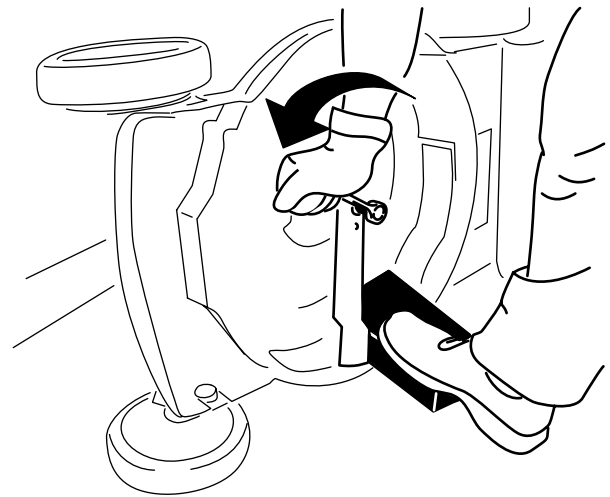

Figure 25
2. Use a block of wood to hold the blade steady (Figure 25).
3. Remove the blades, saving all mounting hardware (Figure 25).